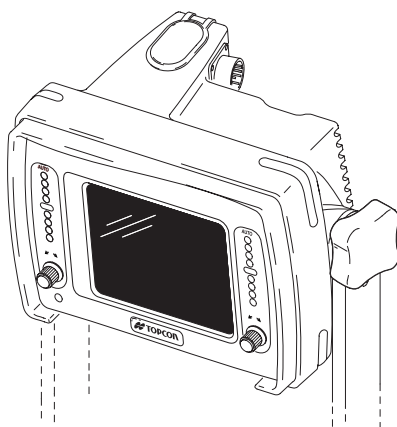

Figure 9-7. Attach Control Box
1. Using the hand knob, attach the control box to the bracket (Figure 9-7).